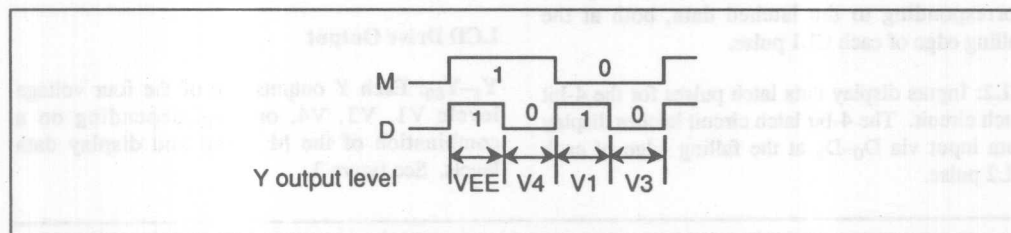

Figure 3 Selection of LCD Drive Output Level
**Y1–Y80:** Each Y outputs one of the four voltage levels V1, V3, V4, or VEE, depending on a combination of the M signal and display data levels. See figure 3.